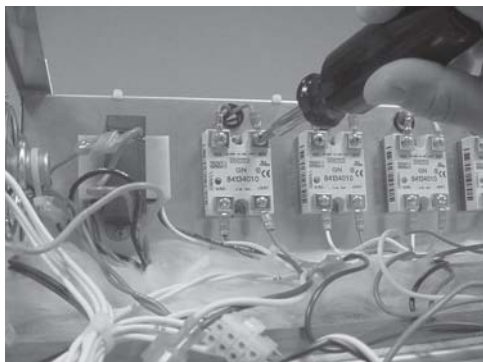

Figure 3-18
7. Label wires and then remove wires from relay using a Phillip's head screwdriver. Figure 3-18.